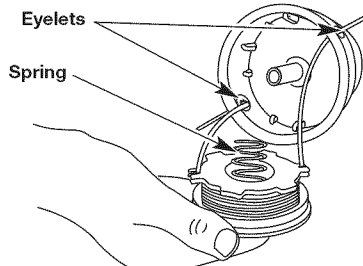

Fig. 21
- Insert or slide the split ends of the line through or into the eyelets in the outer spool and place inner reel with spring inside the outer spool (Fig. 21). Push the inner reel and outer spool together.
- Insert or slide the ends of the line through or into the eyelets in the outer spool (Fig. 21).